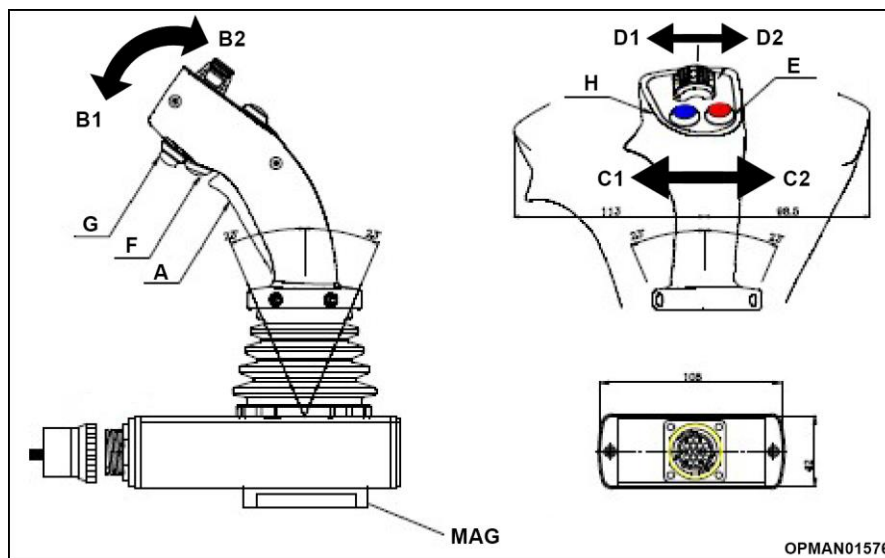

Figure 4.2 - Joystick Controls
Twiga Mini machines can be equipped with joysticks. Usually, the joystick we provide has a magnet underneath it to make it easier to mount in the best position for use by the operator; see Figure 4.2 (MAG).
Grasp the joystick and keep the “deadman” button pressed; see Figure 4.2 (A). To control the arms, move the joystick in the direction indicated in the diagram at the bottom.
The joystick is set up for mounting the automatic levelling system. If the customer did not order the levelling system as an option, when first activated the light on the level light key will flash; see Figure 4.2 (H). The light will flash for 5 minutes, then after this first phase the light will finally shut off.
Guidance for operating the automatic cutterbar direction can be found in Figure 4.2 (H)/Table 4.3 (H).